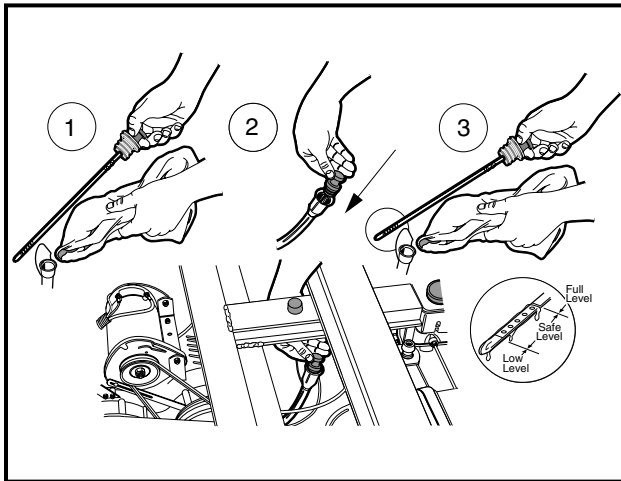

Figure 13-11 Check Engine Oil Level
9. Check engine oil level (**Figure 13-11, Page 13-9**).